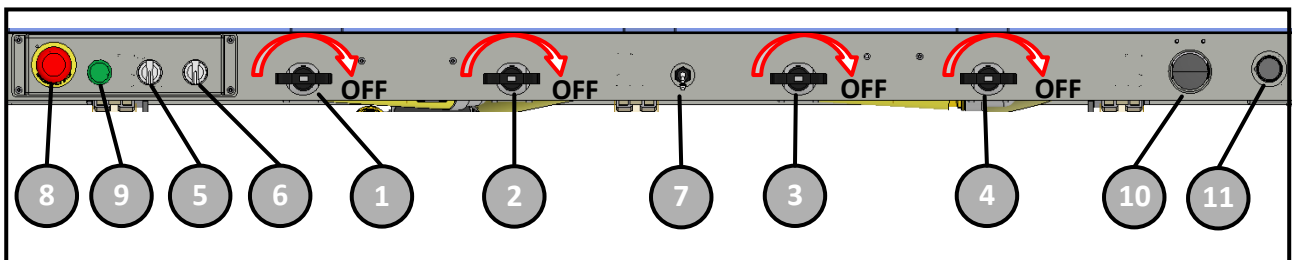

Figure 4-1
- Power the machine on by pushing the power on button (9) Figure 4-1
- Start the vacuum pump (5) Figure 4-1.
- Open the suction thru the switch (6) Figure 4-1.
- Open vacuum zones (1) (2) (3) (4) according to the material dimension Figure 4-1.
- In case of danger, it will be sufficient to press the emergency button Figure 4-1 to instantly stop and cut power off to the machine.
- Push the Power ON button (9) Figure 4-1.
- Press Power On button (9) Figure 4-1, to have the system releasing clamps.
- Place the special porous board (1) under the clamps (2).